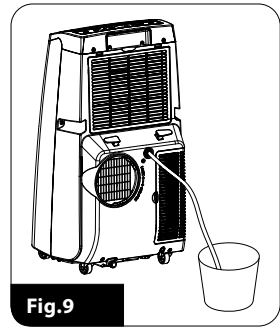

Fig.9
- unscrew the cap and remove the plug (6)
- connect the other end of the drain hose to the drainage system or a dish (Fig. 9)
**CAUTION!** The dish or the drainage system must be located below the outlet (6).
**CAUTION!** Do not connect the drain hose to the bottom water outlet (10) – condensed water plays an active part in the cooling of the appliance.